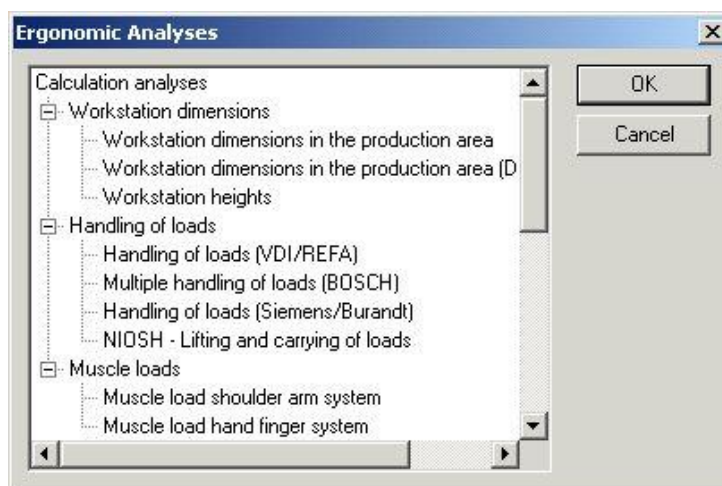

Figure 282: Ergonomic Analyses Selection Window
- 2) The **Ergonomic Analyses** selection window opens (*Please refer to the Figure 282*).